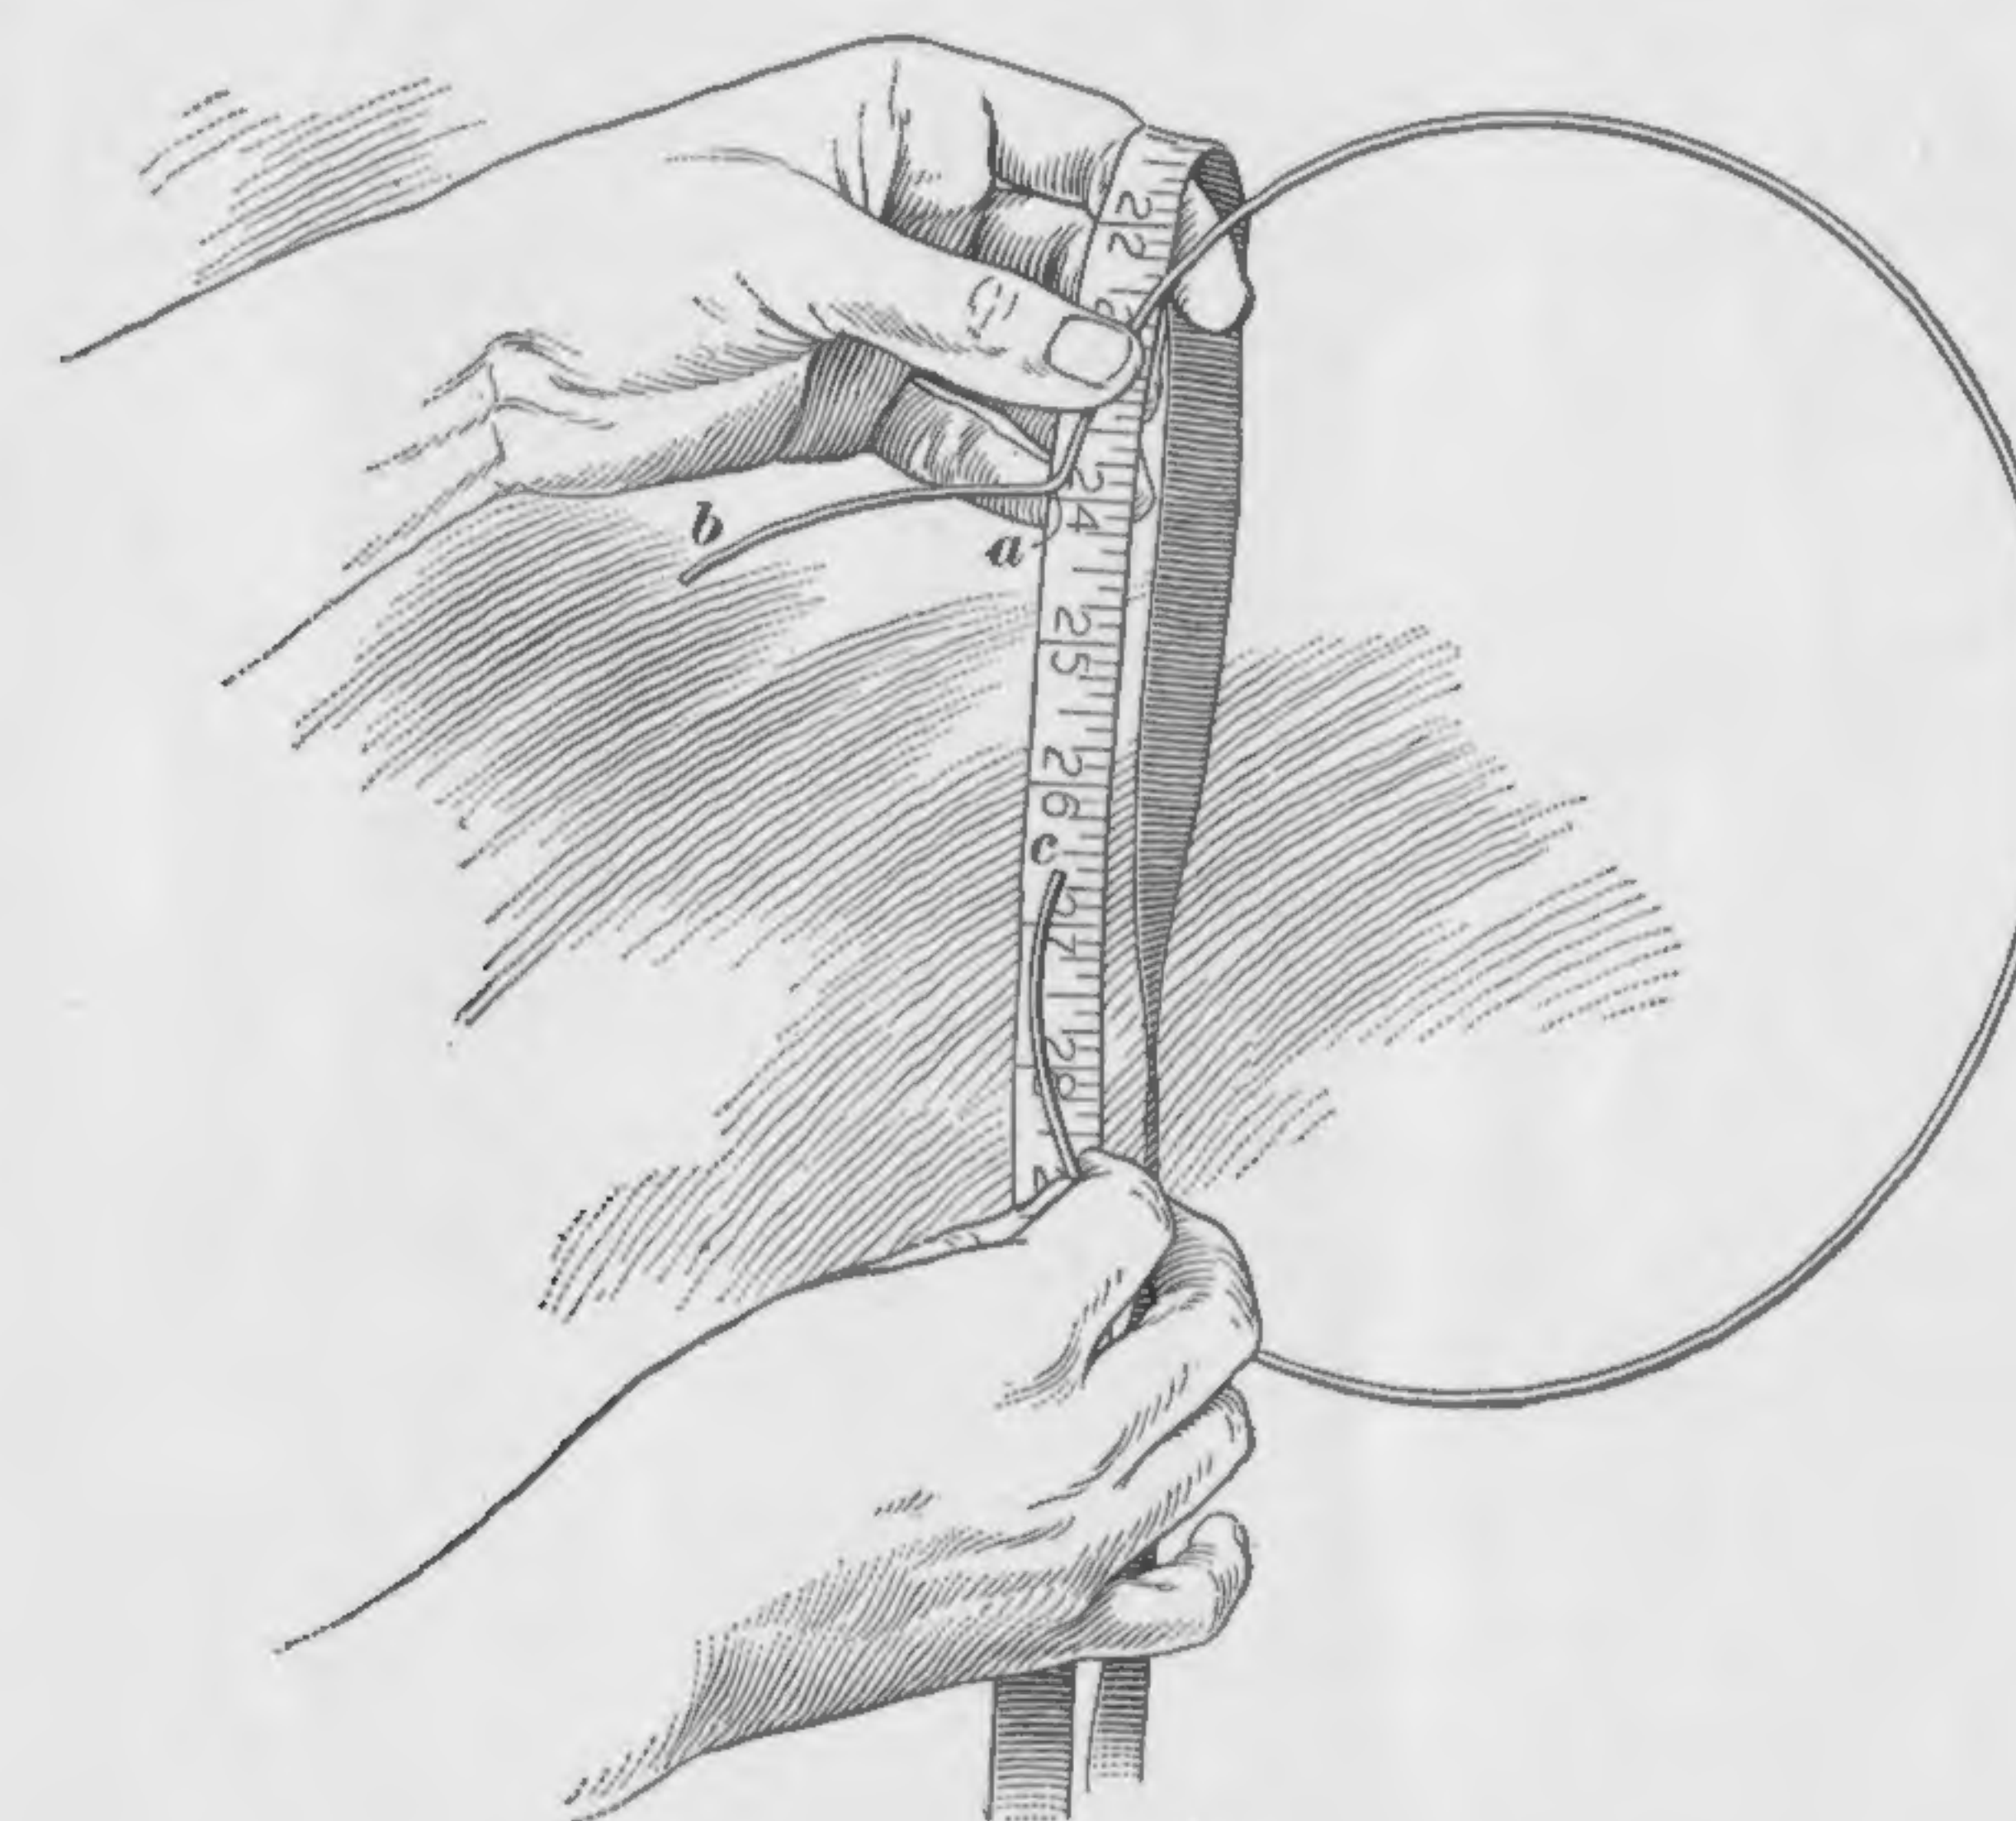

FIG. 9
15. If a considerable number of frames of a standard head-size are to be made, the wire is measured with a tape measure. Suppose, for example, that the head-size is to be 24 in. Take up the end of a coil of brace wire and hold the end of the tape measure even with it. Then, holding the two together, with the tape measure on top, slip the fingers along until the 24-in. mark is reached, and make a slight bend in the wire, as shown at *a*, Fig. 9. Then continue